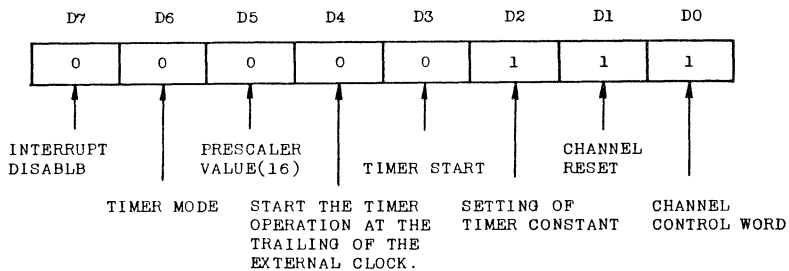

Fig. 3.18 Channel Control Words
- (c) Channel control words are shown in Fig. 3.18.